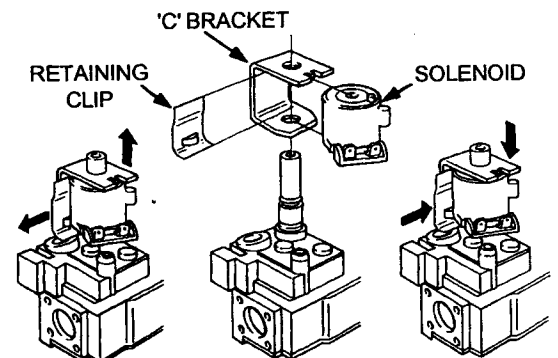

Fig. 31
- 8.12.22** Pull off the 'C' bracket and coil assembly. see fig. 31